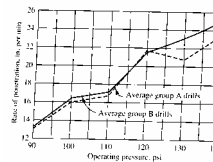

FIGURE 13-15 Variations in the rate of penetration with air pressure.
- Figure 2 (Fig 11-16, Text) is a nomogram based on the information appearing in Fig. 13-15 which indicates the percent increase in penetration resulting from an increase in air pressure.